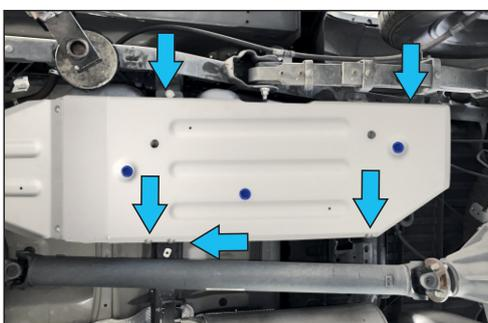

Fig. 9
9. Attach the Gas Tank skid plate p.1 (pos.1) to mounting brackets using Bolts M10x25 (C) and Flat washers 10 mm (E). (Fig. 9)